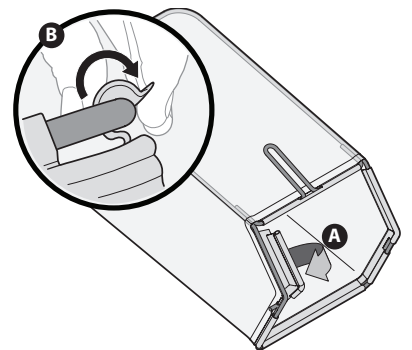

Figure 4
1. Follow steps below to assemble the grass catcher. Make certain bag is turned right side out before assembling (warning label will be on the outside). See Figure 4.